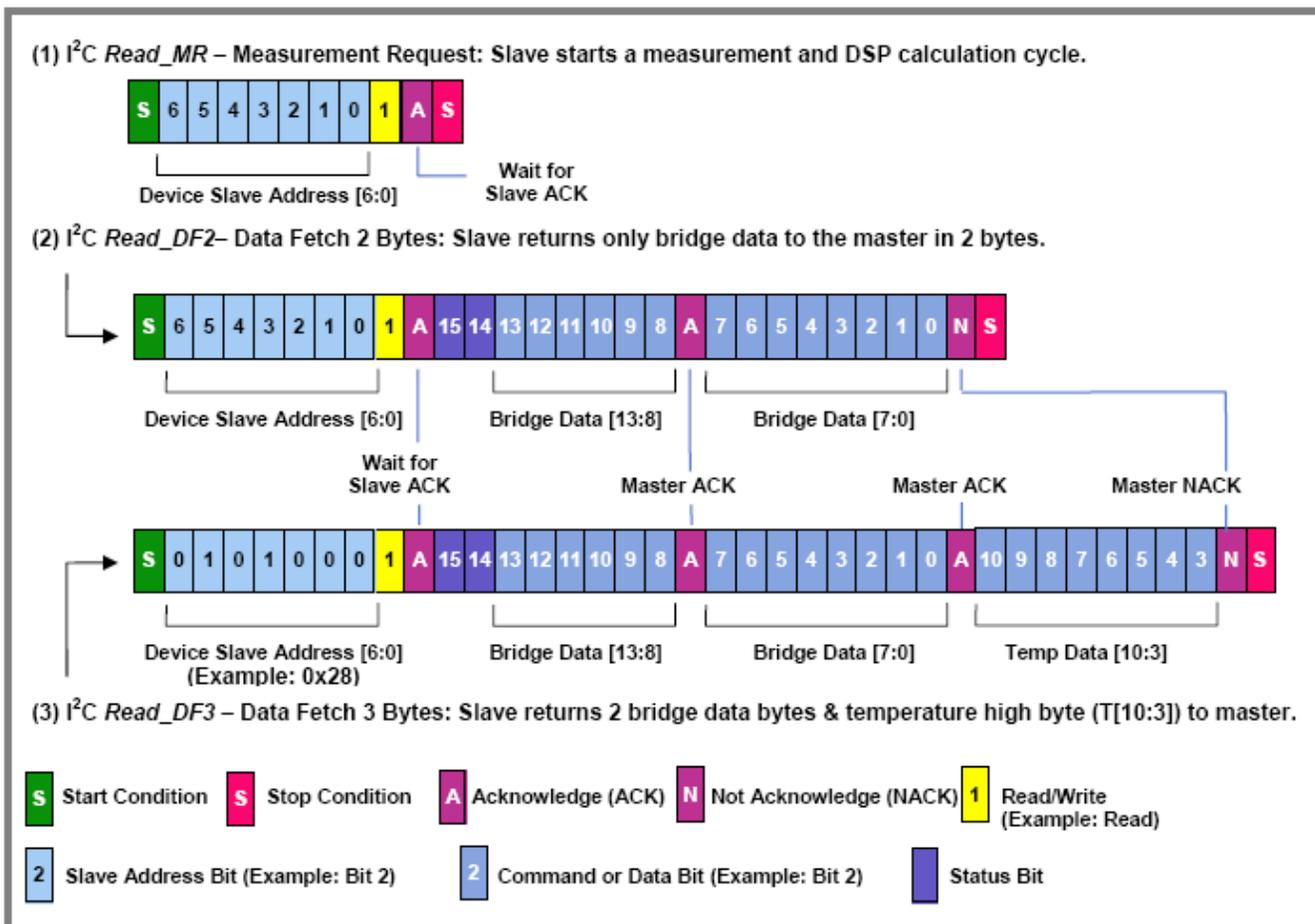

Figure 1.6 – I2C Measurement Packet Reads
The I²C master command starts with the 7bit slave address with the 8th bit =1 (READ).The sensor as the slave sends an acknowledge (ACK) indicating success. The sensor has four I²C read commands: Read_MR, Read_DF2, Read_DF3, and Read_DF4. Figure 1.6 shows the structure of the measurement packet for three of the four I²C read commands, which are explained in sections 1.6.1 and 1.6.2
The Read_MR (see example 1 in Figure 1.6) communication contains only the slave address and the READ bit(1) sent by the master. After the sensor responds with the slave ACK, the master must create a stop condition. This is only used in Sleep Mode (see section 3.1.2) to wake up the device and start a complete measurement cycle (including the special measurements) followed by the DSP calculations and writing the results to the digital output register.
For Data Fetch commands, the number of data bytes returned by the sensor is determined by when the master sends the NACK and stop condition. For the Read_DF3 data fetch command (Data Fetch 3 Bytes; see example 3 in Figure 1.6), the sensor returns three bytes in response to the master sending the slave address and the READ bit (1): two bytes of bridge data with the two status bits as the MSBs and then 1 byte of temperature data (8-bit accuracy). After receiving the required number of data bytes, the master sends the NACK and stop condition to terminate the read operation. For the Read_DF4 command, the master delays sending the NACK and continues reading an additional final byte to acquire the full corrected 11-bit temperature measurement. In this case, the last 5 bits of the final byte of the packet are undetermined and should be masked off in the application. The Read_DF2 command is used if corrected temperature is not required. The master terminates the READ operation after the two bytes of bridge data (see example 2 in Figure 1.6).